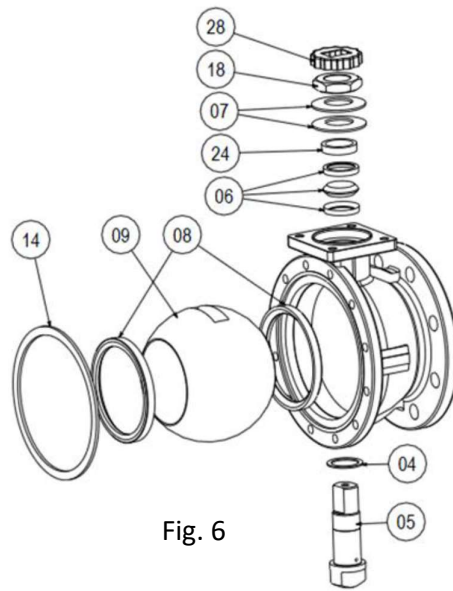

Fig. 6
- 1) Remove the nut lock (28) and loosen the nut (18) (Fig. 6).
- 2) Remove the Belleville washers (07) and the gland (24).
- 3) Press the stem (05) downward to push it into the valve body.
- 4) Remove the stem (05) and replace the thrust washer (04).
- 7) Retighten the gland nut (18) using the torque specified in Table 1.